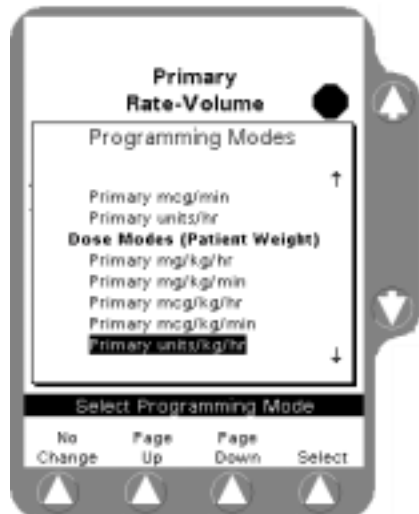

Figure 5-18 Programming Modes
2. Press the **Change Mode** soft key. The Programming Modes screen is displayed (Figure 5-18).
3. Press the **Change Mode** soft key. The Programming Modes menu is displayed (Figure 5-18).